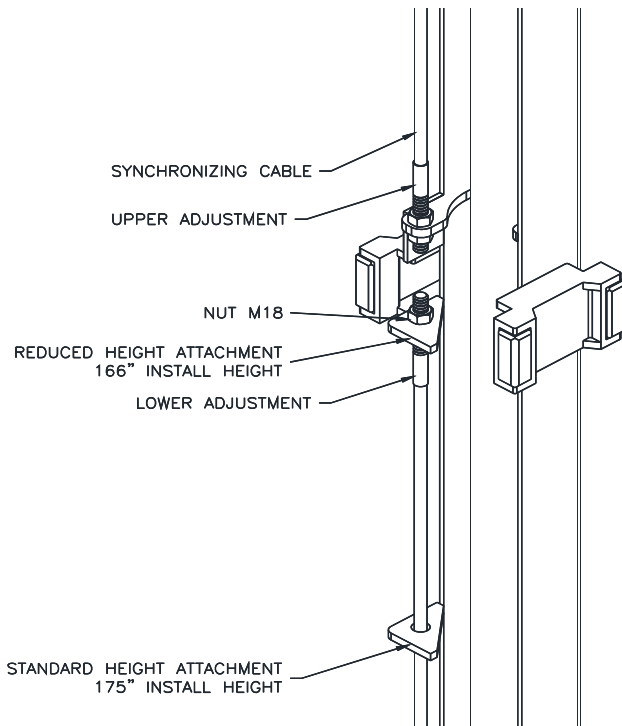

Fig. 5 – Synchronizing Cables
- Attach bolt-on parts to column extensions as shown in **Fig. 5** and assemble to columns using M12 x 30 Hex bolts. Ensure power extension assembly is bolted to power column. NOTE: Install Nut and Washers on exterior of the assembly
- 8) Shim both columns to plumb using the shims provided as shown in Fig. 5. DO NOT shim more than 1/2" at any given point. Use a level no less than 24" in length to plumb columns.
- 18) Attach one end of synchronizing cable to carriage. See **Fig. 5** for proper attachment.
- 19) Route cable up and over sheave in overhead. Follow across to other sheave on opposite column. Route down through carriage to sheave in bottom of column. Route under sheave and up to cable attachment. Lower attachment point is used for Standard Height Installation (175") and the Upper attachment point is used for Reduced Height Installation (166"). Use **Fig. 5** for proper attachment.